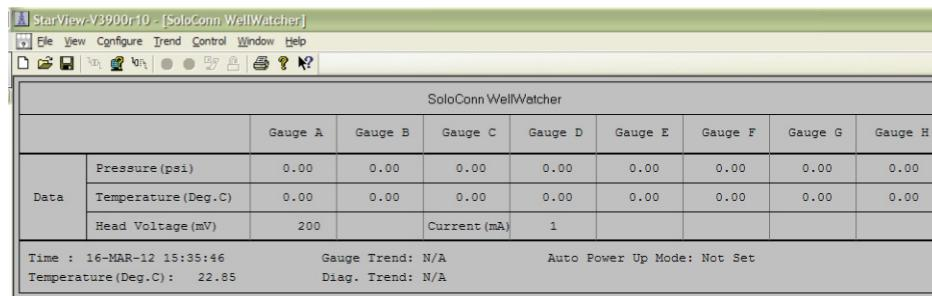
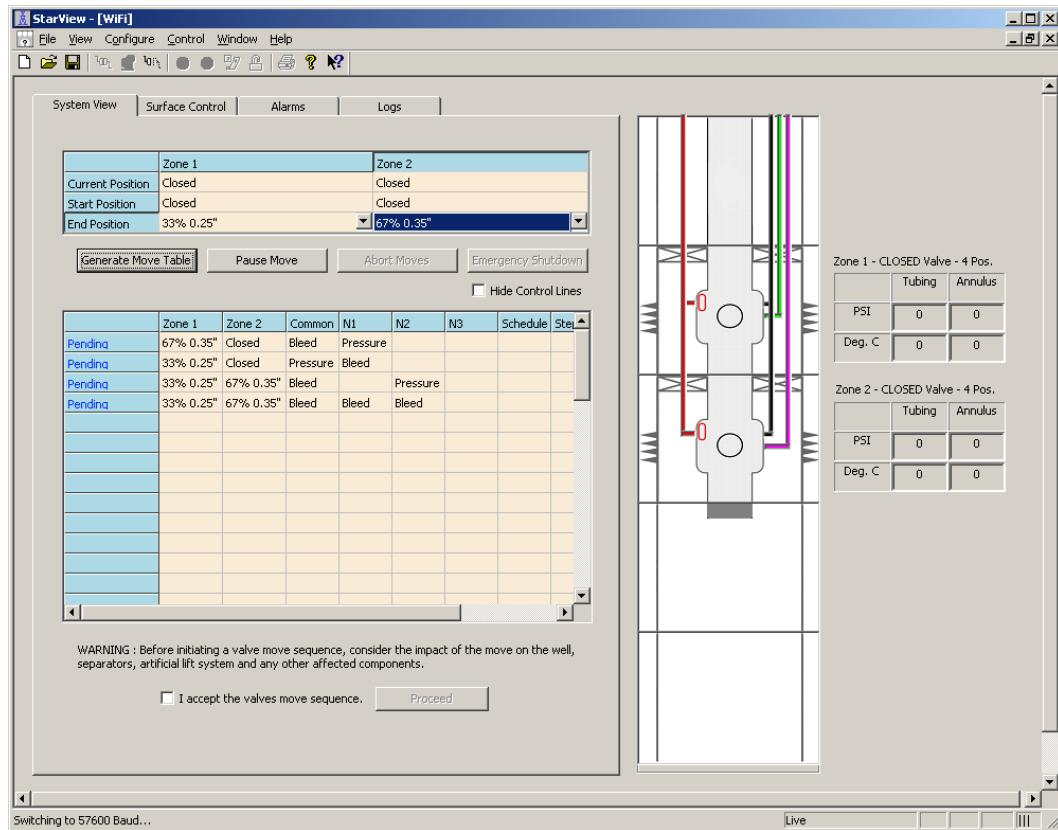

Figure 10-9: SoloConn WellWatcher NG Site Window
Figure 10-13: IntelliZone Site Window
- This transfer requires a site window communicating to the source site, select **File** and **New** from the StarView main window. Refer to Figure 10-9: SoloConn WellWatcher NG Site Window, Figure 10-10: ARConn WellWatcher NG Site Window, Figure 10-11: ESP Site Window, Figure 10-12: UniConn WellWatcher Site Window or Figure 10-13: IntelliZone Site Window for examples.